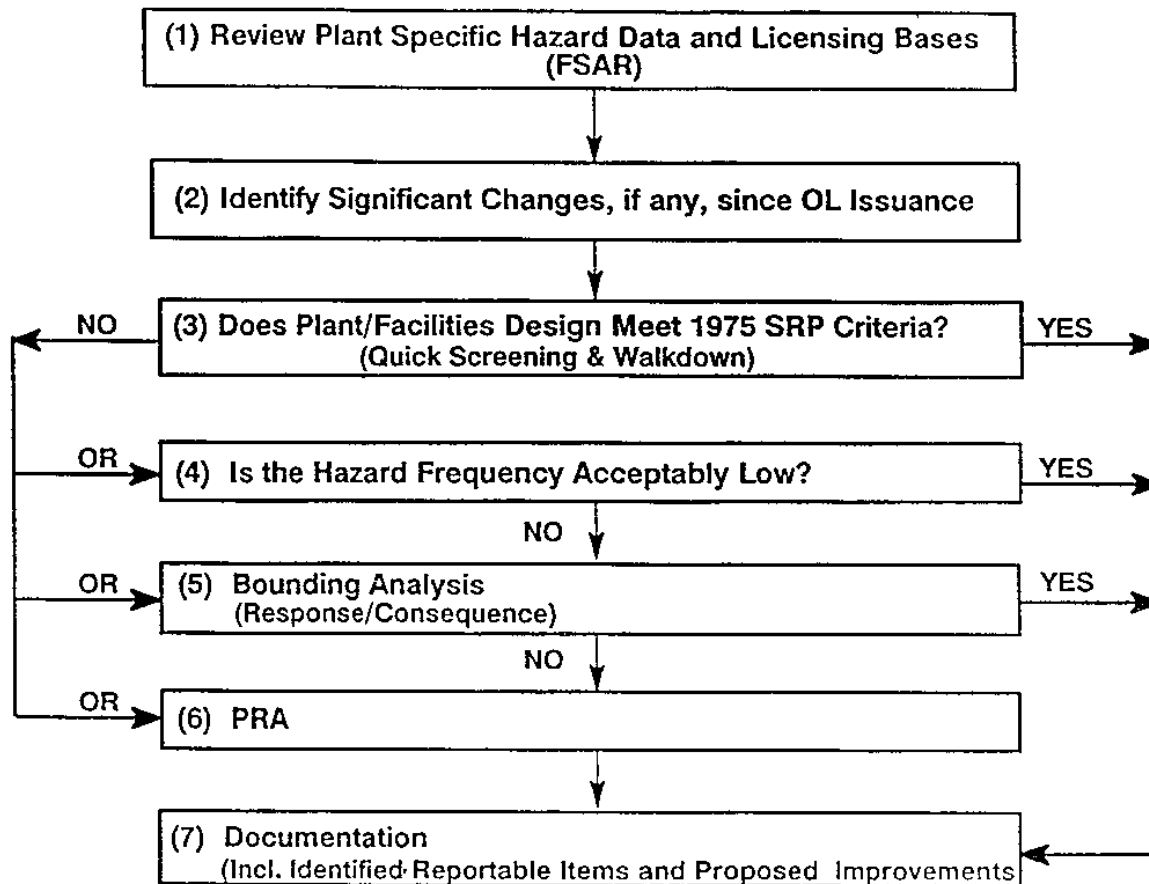

Figure 5.1 Recommended IPEEE Approach for Winds, Floods, and Others
- **Progressive screening approach summarized in Figure 5.1 of NUREG-1407**